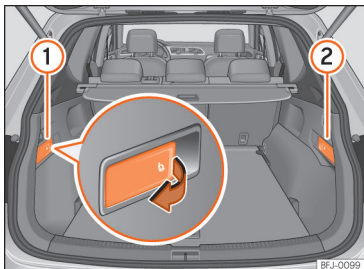

Fig. 156 In the boot: levers for release on the left part ① and right part ② of the rear seat backrest.
- Pull the unlocking lever »» Fig. 156 of the part of the backrest to fold down.